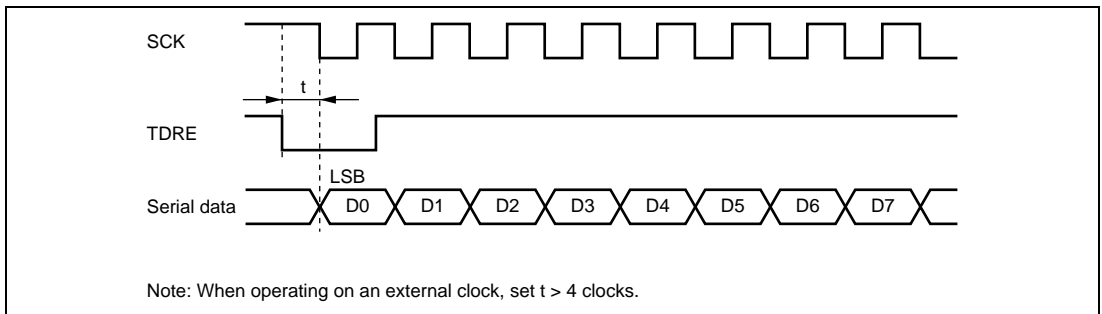

Figure 13.36 Example of Clocked Synchronous Transmission by DTC
- When an external clock source is used as the serial clock, the transmit clock should not be input until at least 5 ϕ clock cycles after TDR is updated by the DTC. Misoperation may occur if the transmit clock is input within 4 ϕ clocks after TDR is updated. (Figure 13.36)